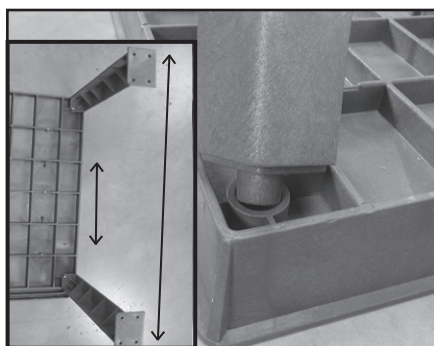

Figure 2
2. Position one **Leg** with peg end down into one corner receptical of Top Shelf. Long edge of shelf pad must be parallel to long edge of shelf (Figure 2).